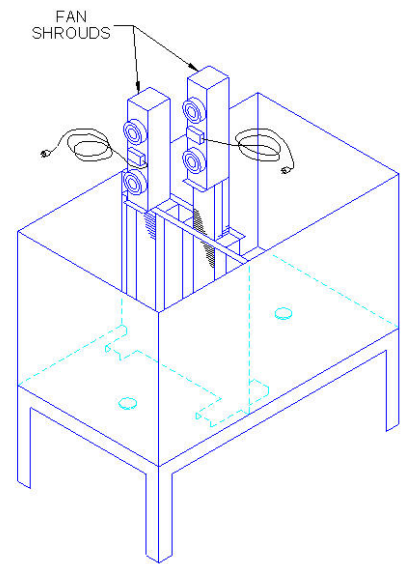

Figure 2
5. Slide the HyTec fan shroud assembly onto the core as shown in **Figure 2**.